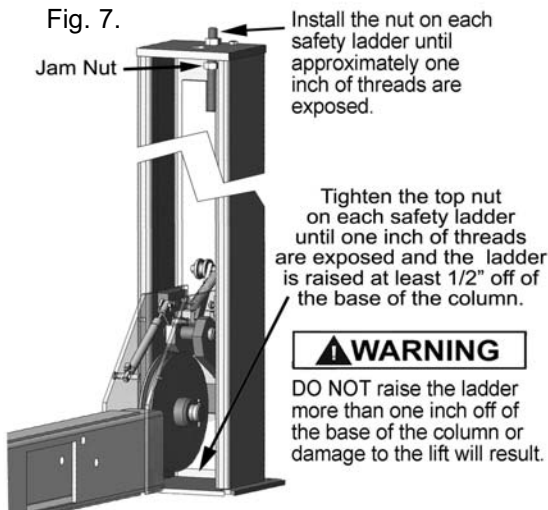

Fig. 7.
2. In order to install the cables it is necessary to first extend the HYDRAULIC CYLINDER. Remove both cylinder port plugs then use an air gun or come-along to extend the cylinder. **IMPORTANT!** - Be careful not to damage the chrome rod during this step. (See Fig. 7.)